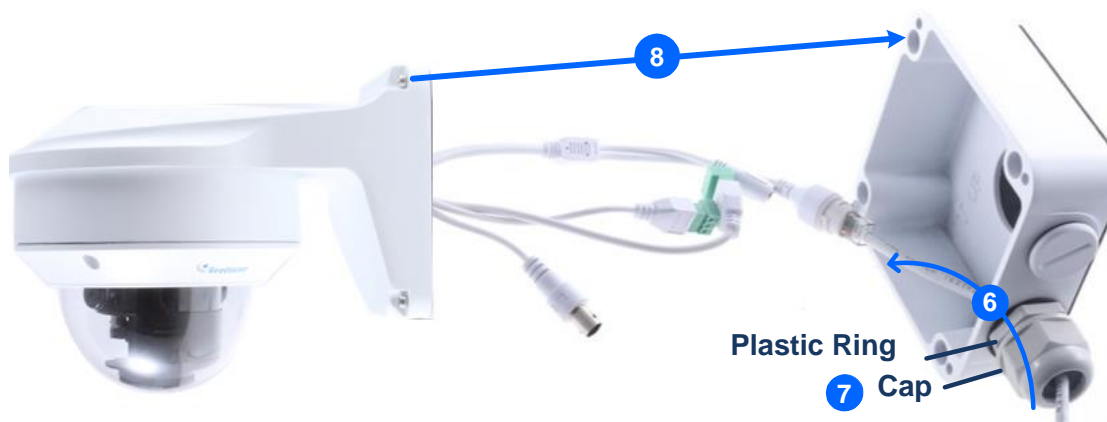

Figure 1-106
6. Thread the Ethernet cable through the PG21 conduit connector and the power box, as shown in No 6, Figure 1-106 below. Then connect the cable to the camera.
7. Rotate the plastic ring to secure the conduit connector to the power box. Screw in the cap shown in No 7, Figure 1-106 below.